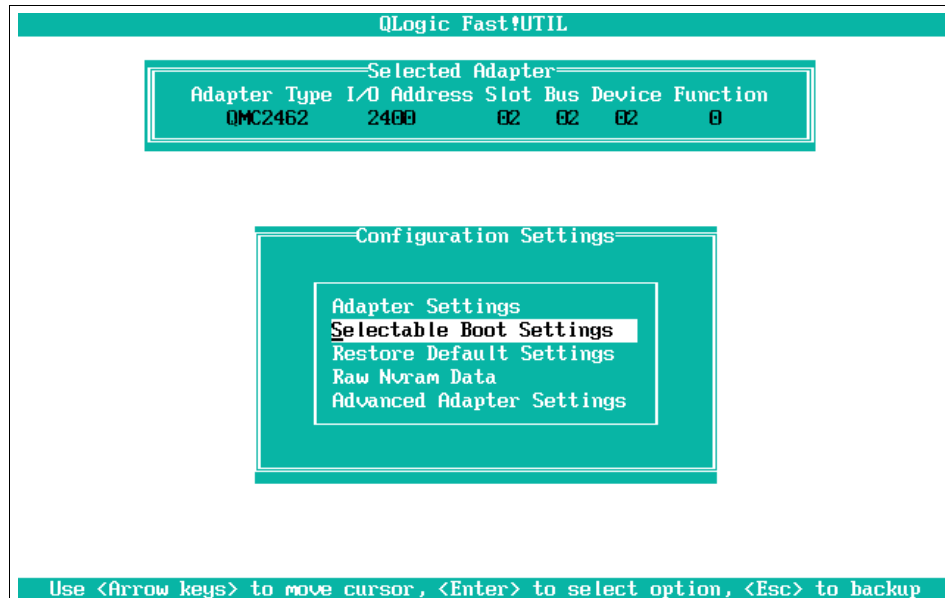

Figure 9-8 Configuration Settings window
6. Select **WWN 200400A0B812E053** and press Esc. You will see a window similar to Figure 9-8. The WWPN will not be the user's, as it depends on the WWPN of their storage; think of WWPN as the serial number of the storage devices, thus it is unique to each storage port.